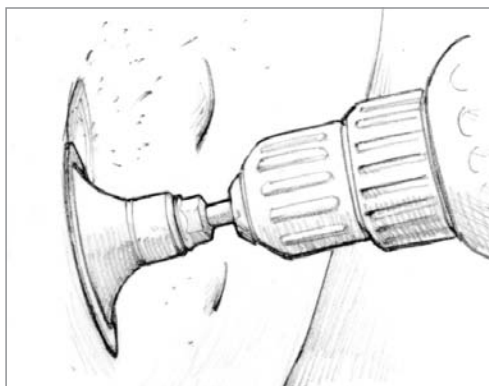

Figure 2-1 Use a small rotary tool chucked into a variable-speed drill to open the blisters.
2. Immediately open the blister cavities. Use a small sanding disk (such as 3M's Rolock™ 2" diameter sanding disk) with 60-grit sandpaper, chucked into a variable-speed drill (*Figure 2-1*). Make sure that you have removed the entire blister, including the edges of the blister dome. *Complete the repair following the procedures in Section 4.1.*